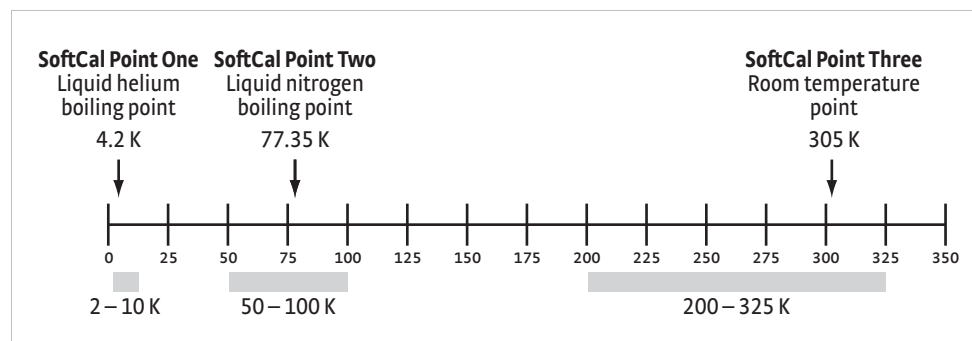
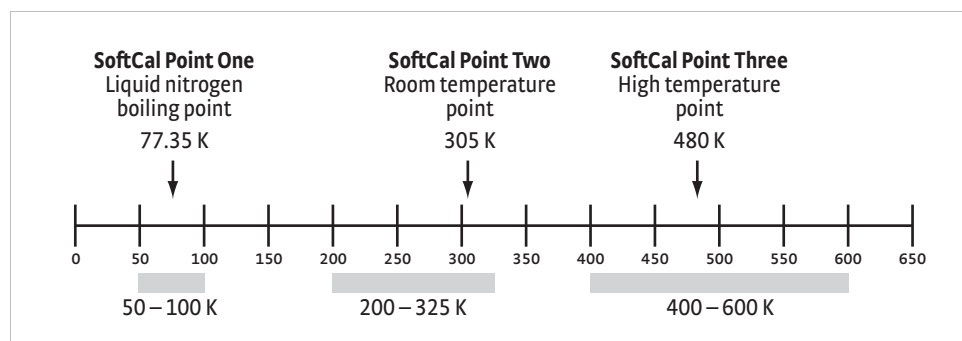

FIGURE 5-9 Acceptable temperature range for DT-400 series silicon diode SoftCal™ sensors
FIGURE 5-10 Acceptable temperature range for platinum SoftCal™ sensors
A unique characteristic of DT-400 Series diodes is that their temperature responses pass through 28 K at almost exactly the same voltage. This improves SoftCal™ algorithm operation by providing an extra calibration data point. It also explains why SoftCal™ calibration specifications are divided into two temperature ranges, above and below 28 K. See FIGURE 5-9.
**Review the acceptable temperature ranges for each calibration data point in FIGURE 5-9 and FIGURE 5-10. If a temperature value outside of the acceptable range is entered, the value will be limited to the closest acceptable value.**